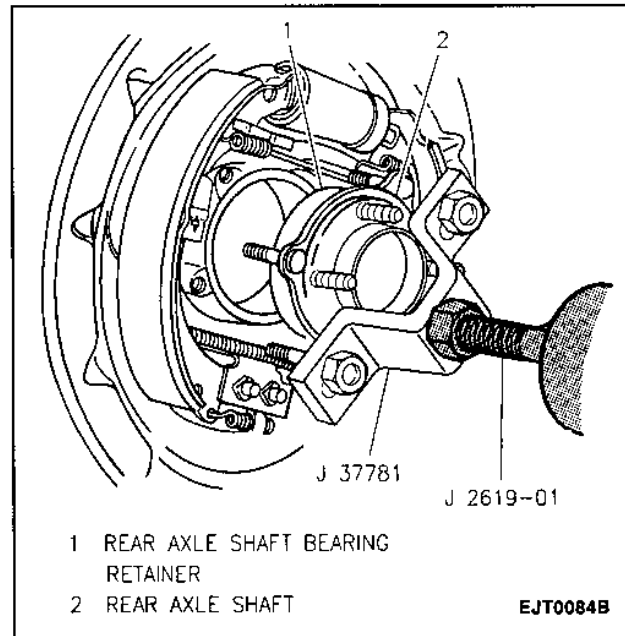

Figure 5—Removing Axle Shaft
7. Rear axle shaft using a J 2619-01 and a J 37781 (Figure 5).